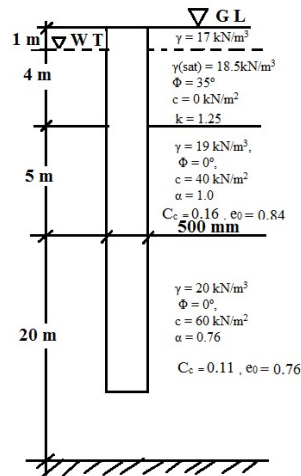

Figure 1
2. (a) A group of 6 bored cast insitu piles (diameter = 40 cm, length = 18 m, center to center distance = 1.0 m and cut off level 1.5 m) arranged in a square pattern pass through a sand layer overlaying a soft deposits which is consolidating under the fill load and rests in stiff clay strata. The soil properties of the different strata are given in Fig.1.